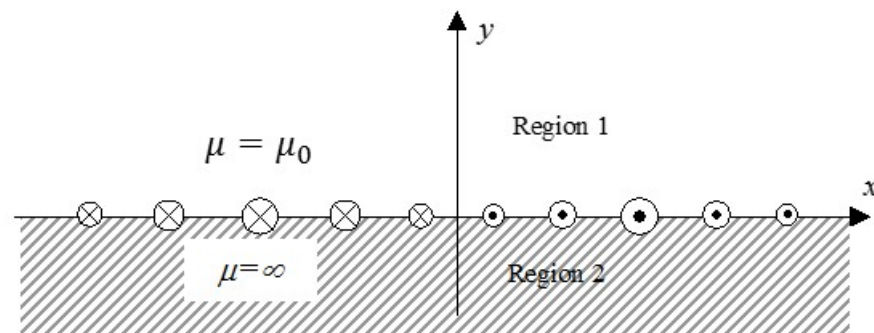

Figure A3 Region of infinite magnetic permeability with a static current sheet at the interface to region of magnetic permeability μ_0 above
- d.** Figure A3 shows a region of infinite magnetic permeability, above which is a region of air with a magnetic permeability of μ_0 . On the interface between the two regions, there is current sheet whose magnitude varies as a function of x as: